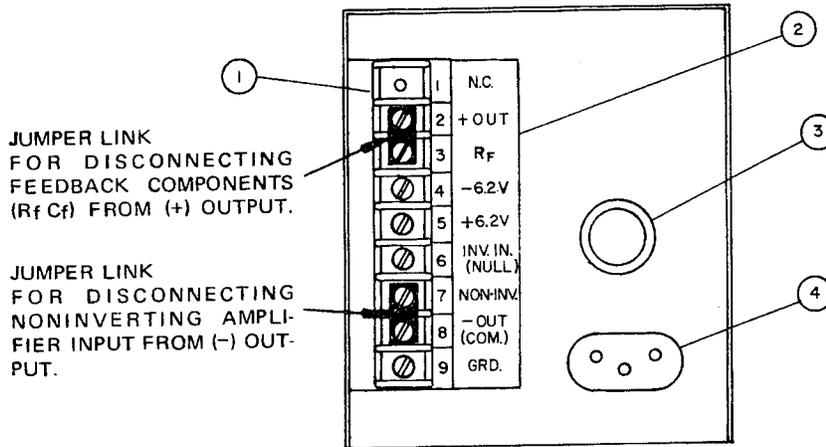

FIG. 2-3 TERMINATIONS, REAR
- b) REAR: Refer to FIG. 2-3 and TABLE 2-3.
| 1 | REAR BARRIER-STRIP | REAR TERMINALS DUPLICATE ALL FRONT PANEL TERMINAL FUNCTIONS, AND PROVIDE SPECIAL FUNCTIONS: SEE NOTES IN FIG. 2-3. |